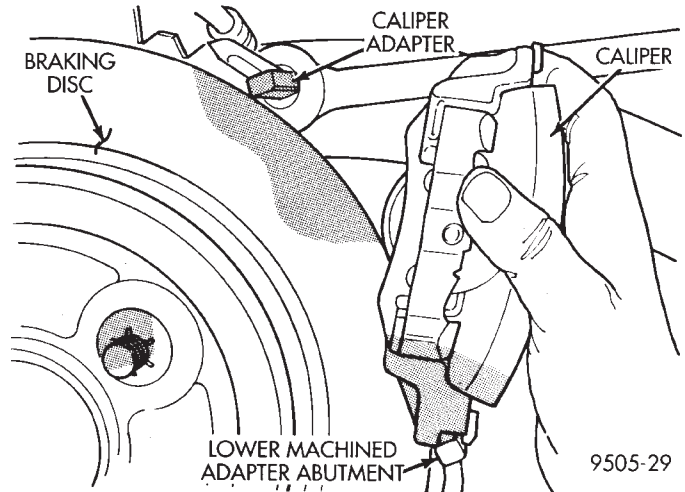

Fig. 94 Removing Caliper From Adapter
(4) Remove caliper from adapter and rotor by first rotating top of caliper away from the adapter, and then lifting the caliper off lower machined abutment on adapter (Fig. 94).
(4) Carefully lower caliper and brake shoes over rotor reversing the removal procedure (Fig. 94).